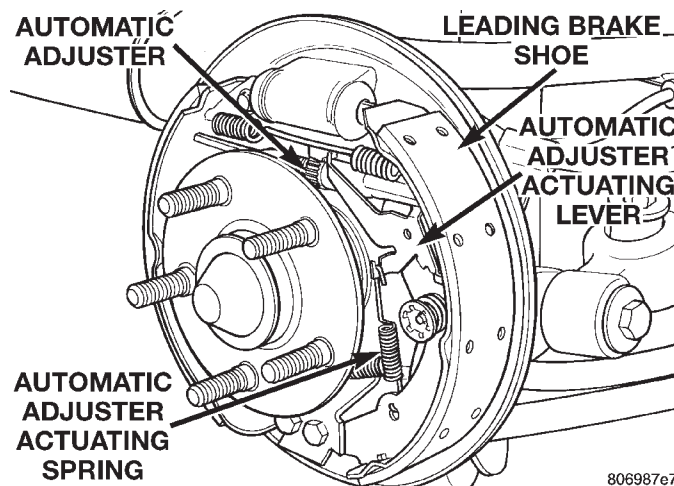

**Fig. 60 Automatic Adjuster Actuating Spring And Lever**
- (4) Remove the automatic adjuster lever actuating spring from the leading brake shoe (Fig. 60). Then remove the automatic adjuster actuating lever from the leading brake shoe (Fig. 60).
(10) Install the automatic adjuster actuating lever and the actuating spring on the leading brake shoe (Fig. 60).
(11) Manually adjust the brake shoes assemblies out as far as possible but not so as to interfere with brake drum installation.
(12) Install the rear brake drums on the hubs.
(13) Adjust rear brake shoes per Adjusting Rear Brakes procedure in the service adjustments section of the service manual.
(14) Install the wheel and tire assembly.
(15) Tighten the wheel mounting stud nuts in proper sequence until all nuts are torqued to half